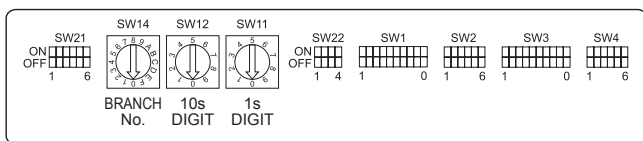

Fig. 4-9
4.5. Setting addresses (Fig. 4-9)